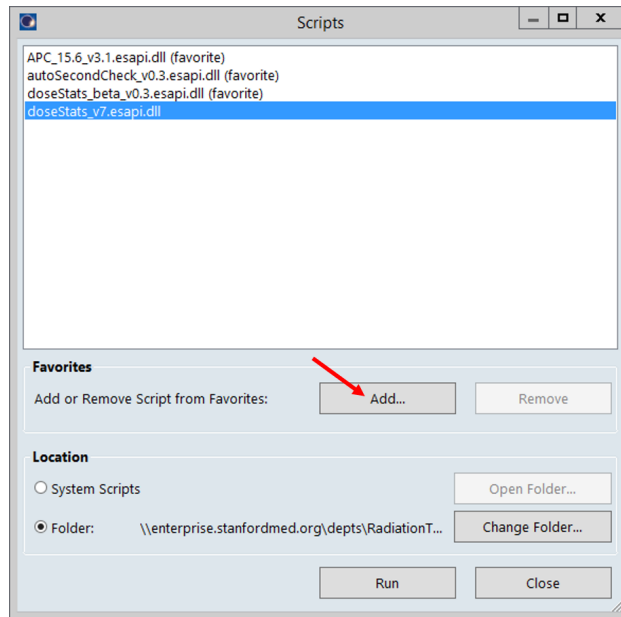

Figure 4: How to add a script to favorites (i.e., how to macro a script to your keyboard).
- In the Scripts window, highlight the script you want to macro to your keyboard, and add the script as a favorite (Figure 4)